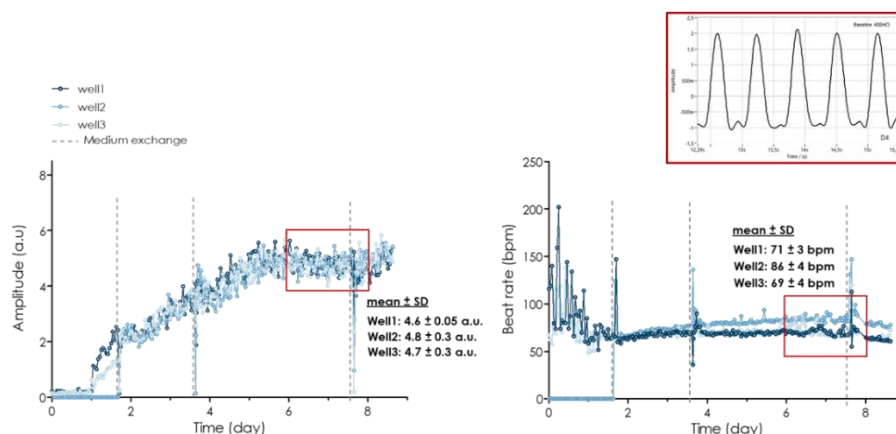

Figure 3. Cardiosight®-S cardiomyocytes form functional monolayers as recorded on FLEXcyte 96.
6. We recommend to perform experiments from day 6 post plating when the cardiomyocytes have reached a stable baseline (Figure 3).